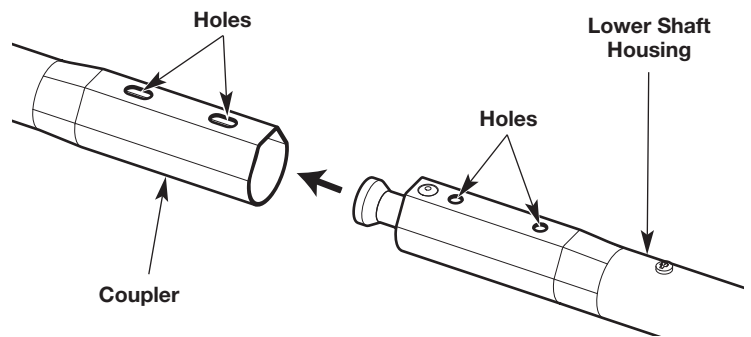
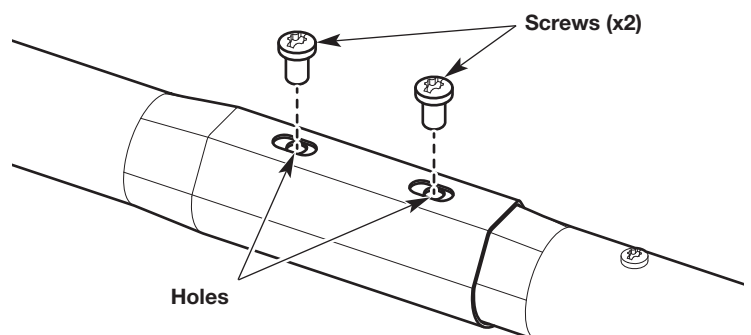

Fig. 3
Fig. 4
2. Turn the upper portion of the unit upside down. The holes on the coupler should face up (Fig. 3).
3. Turn the lower portion of the unit upside down. The holes on the lower shaft housing should face up (Fig. 3).
4. Push the lower shaft housing into the coupler (Fig. 3). The holes on the lower shaft housing should align with the holes on the coupler (Fig. 4).
5. Insert the screws (x2) into the aligned holes (Fig. 4).